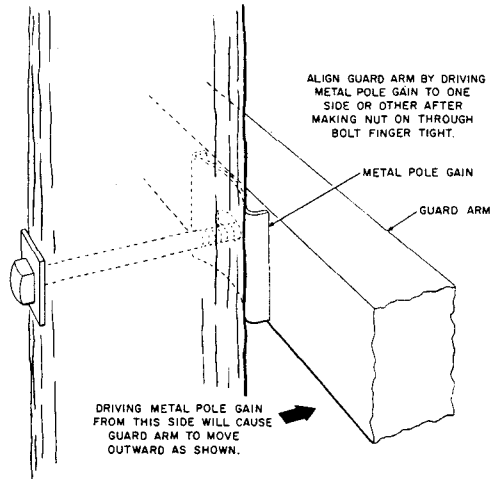

Fig. 6—Metal Pole Gain Installed
- 3.06** A metal pole gain installed as shown in Fig. 6 may be used to avoid the necessity of cutting a gain in the pole.